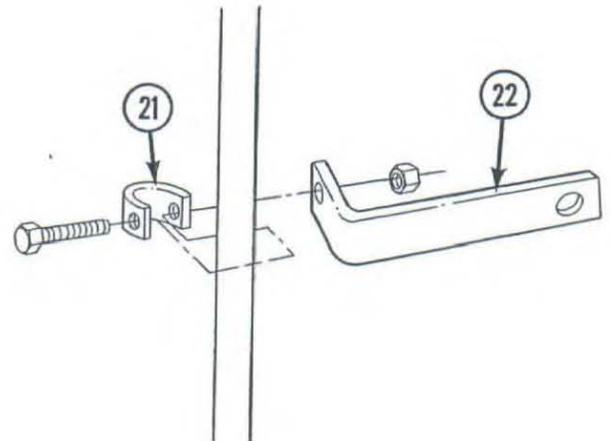
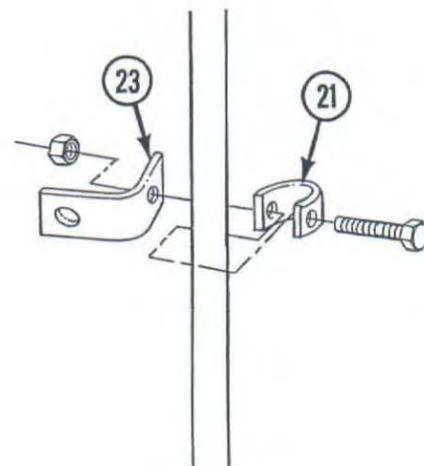

FIGURE 8A
FIGURE 8B
## STEP 9; SEE FIGURE 8A, 8B
**NOTE:** The single stage blower requires the long CHUTE CONTROL BRACKET (22), FIGURE 8A, on the right front post. The two stage blower requires the short CHUTE CONTROL BRACKET (23), FIGURE 8B, on the left front post .
- A. Place the 3/4" "U" CLAMP (21) open end forward and 11" above the bottom of the post. Insert a 5/16" x 1 1/2" bolt through the clamp. Place the correct bracket over the bolt. Add a 5/16" locknut and tighten.